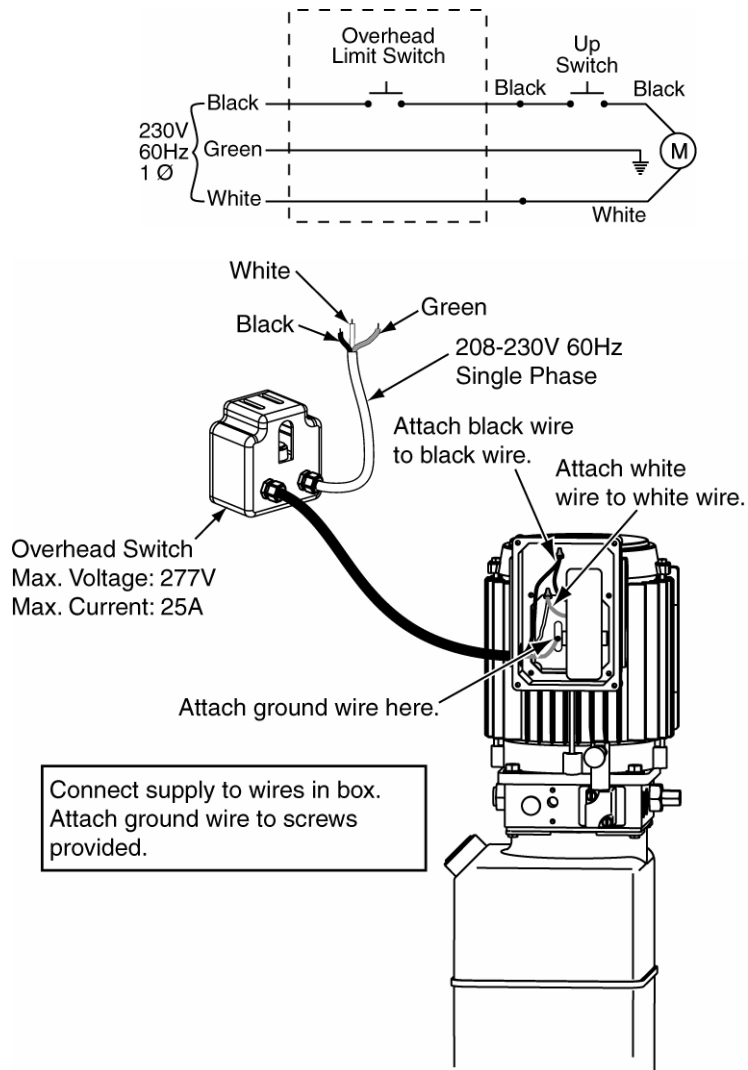

Figure 13
A. Have a certified electrician establish 208-230V, single phase, 60 Hz., 20 amp, power supply to motor and overhead switch, figure 13.